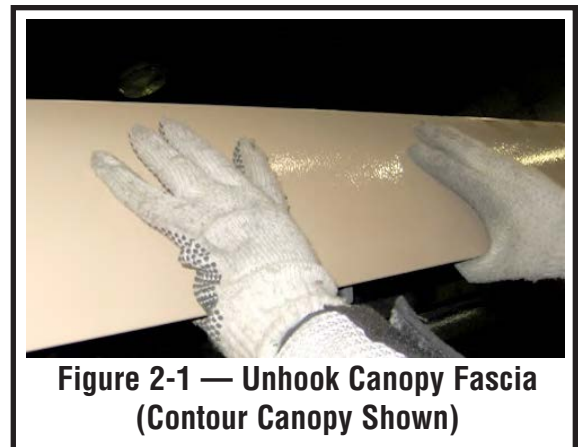

Figure 2-1 — Unhook Canopy Fascia (Contour Canopy Shown)
B. Unhook the canopy fascia panel by lifting out from the center at the bottom as shown in Fig. 2-1 & 2-2.